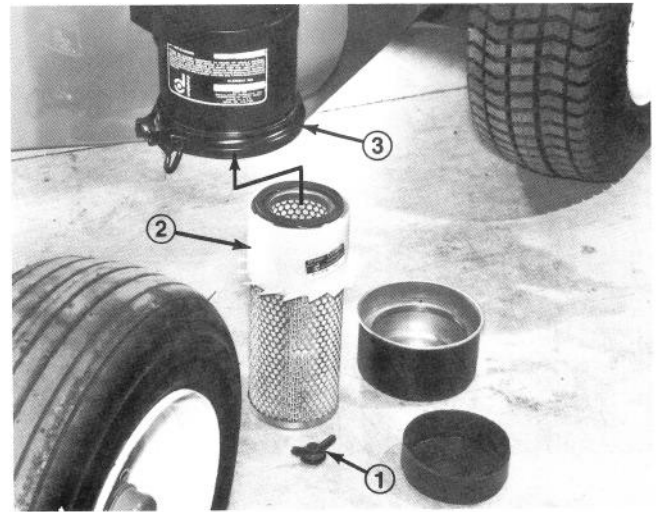

Figure 36
2. Remove wing nut w/gasket and slide filter element out of air cleaner body (Fig. 36).